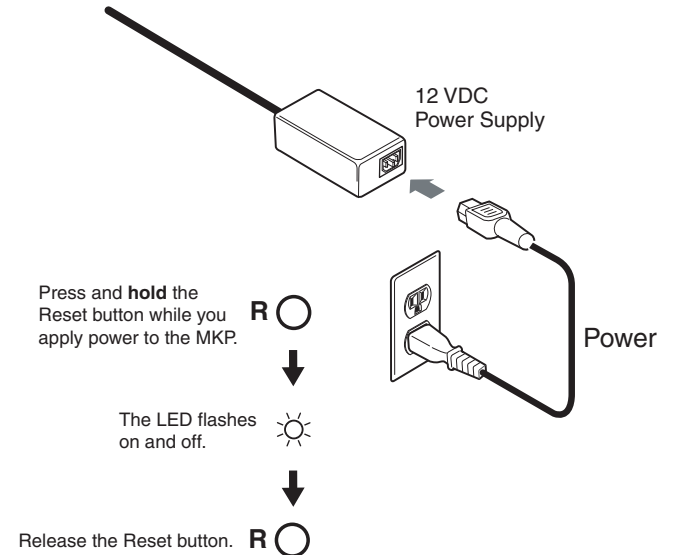

Figure 3-10 — Performing a hard reset
2. Press and **hold** the Reset button on the rear panel **while** you apply AC power to the MKP (figure 3-10).